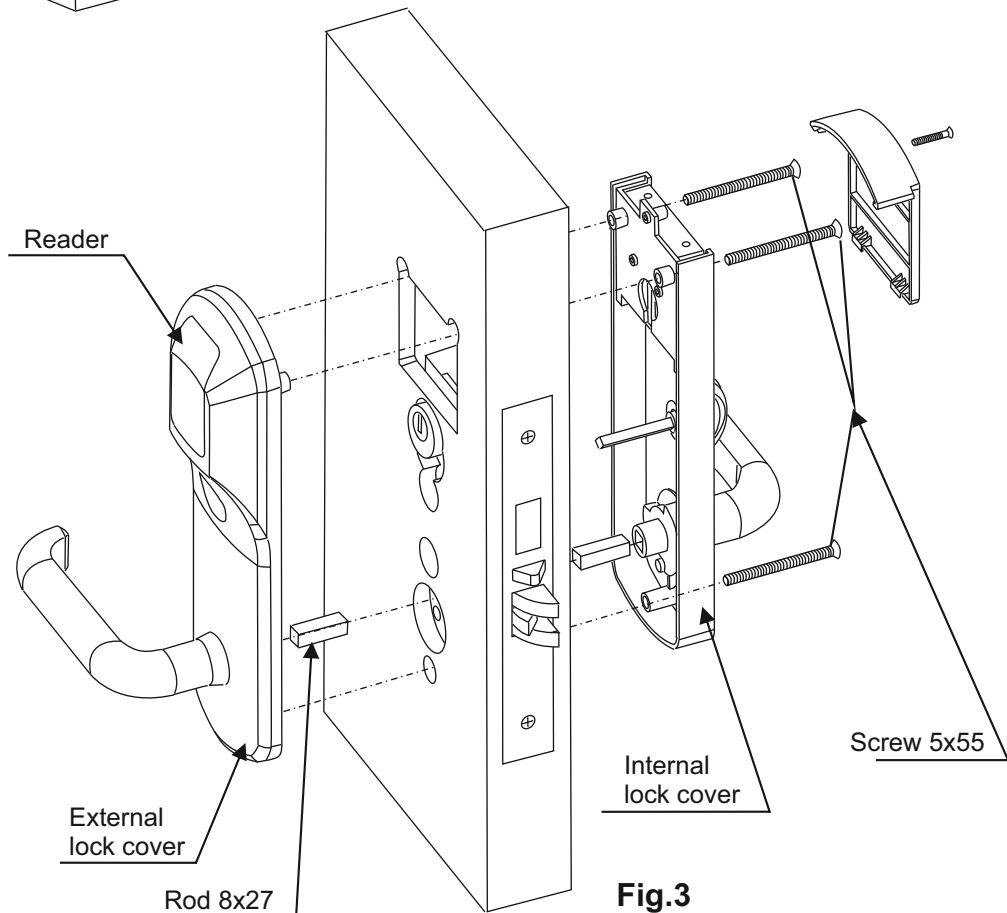

Fig.3
5. Install the outer lock covers over the lock, see Fig. 3.